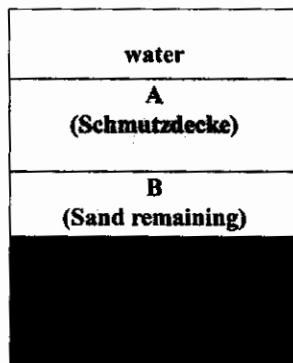

Figure Q4-1 Layers of slow sand filter just before re-sanding
- 4D. Figure Q4-1 below shows the cross section of different layers existing in slow sand filter just before the time for re-sanding is reached. Draw the cross section of the different layers in the slow sand filter immediately after sanding.[5 marks]